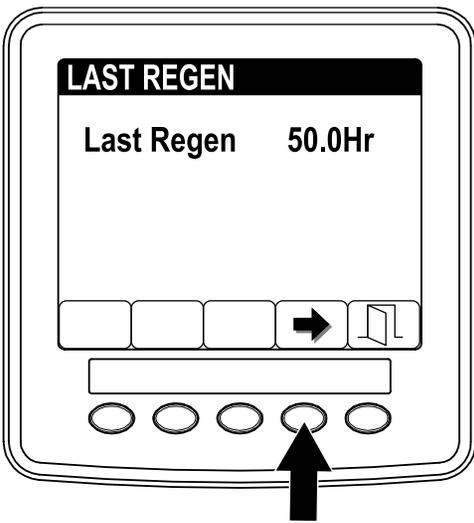

Figure 6
3. Use the LAST REGEN field (Figure 6) to determine how many hours you have run the engine since the last reset, parked, or recovery regeneration.